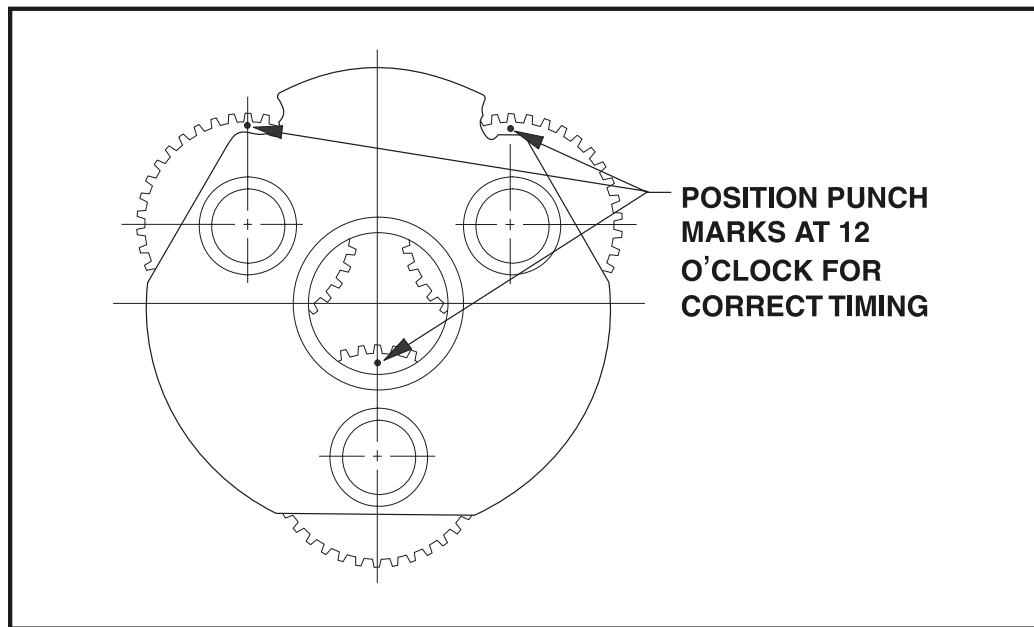

Figure 2-9. Torque Hub Carrier Timing
12. Set carrier assembly on work surface so that large ends of cluster gears face up. Locate punch marks on face of each cluster gear and position them at 12 o'clock. Refer to Figure 2-9., Torque Hub Carrier Timing